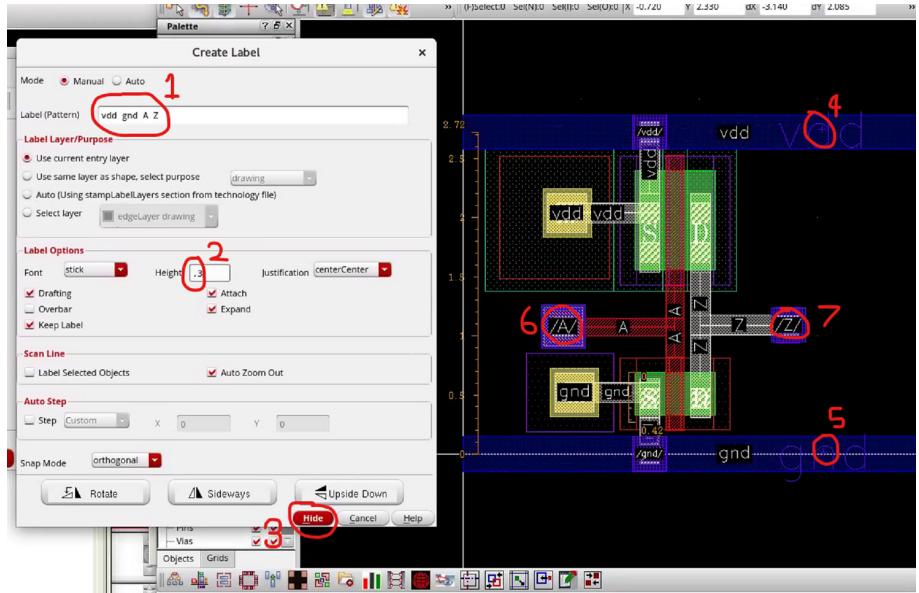

Figure 13: Final inverter layout.
- Your layout should be (mostly) complete now and look like Fig. 13. In the next part, you will verify it and correct the potential errors.